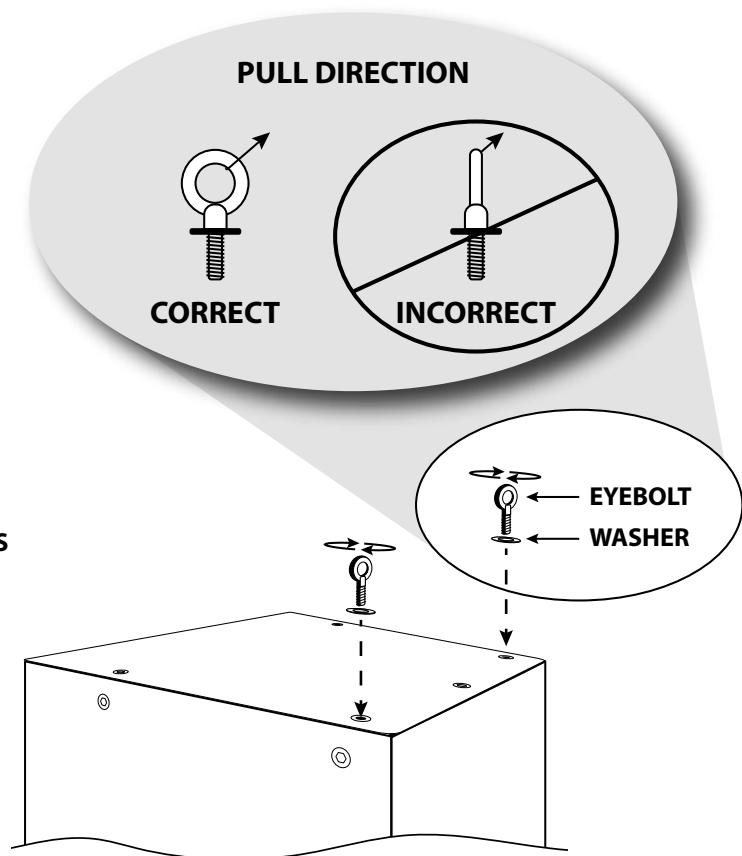

Fig 6
2. Screw the lifting eyebolt with fender washer into the threaded attachment point until the fender washer has contacted the enclosure (see Fig 6).
WARNING! EYEBOLTS MUST BE FULLY SEATED AND ORIENTED IN THE PLANE OF PULL AS SHOWN IN Fig 6. ALWAYS USE WASHERS TO DISTRIBUTE SUSPENSION LOADS.